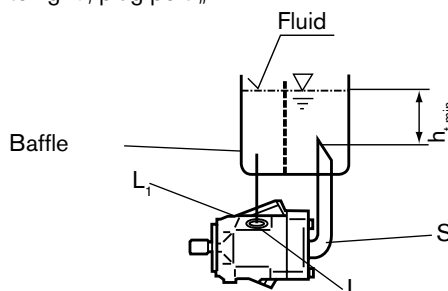

Fig. 5
- b) Mounting below the reservoir: pipe ports „L₁“ and „S“ acc. to fig. 5, plug port „L“.